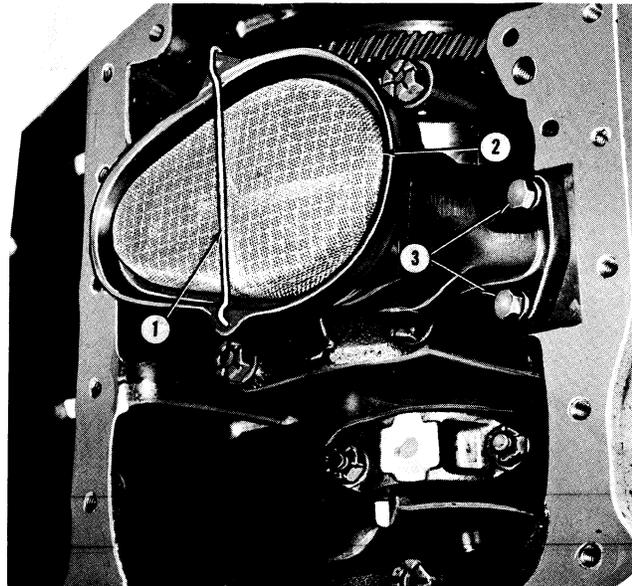

Figure 29
2. Remove the oil pump retaining bolts, Figure 29, and remove the oil pump and gasket. When the oil pump is removed, the intermediate shaft is loose and should be removed.
1. Remove the oil pump screen spring and pump screen, Figure 29.
2. Place the intermediate shaft on the rotor shaft and, using a new gasket, install the oil pump assembly on the cylinder block, Figure 29. Install the two mounting bolts and lock washers and tighten to the specified torque, page 68.